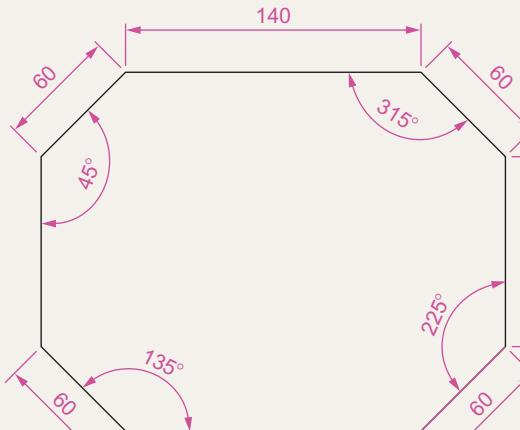

Fig. 2.30 Exercise 3
3. Using the **Line** tool, construct the outline Fig. 2.30.